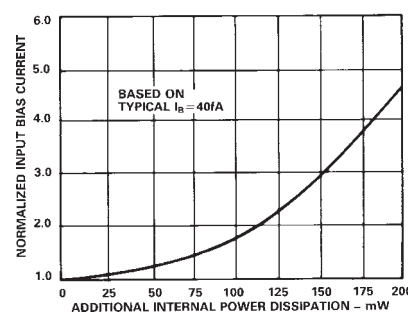

Figure 9. Input Bias Current vs. Additional Power Dissipation
3. Output loading effects, which are normally ignored, can cause a significant increase in chip temperature and therefore bias current. For example, a $2\text{ k}\Omega$ load driven at 10 V at the output will cause at least an additional 25 mW dissipation in the output stage (and some in other stages) over the typical 24 mW , thereby at least doubling the effects of self-heating. The results of this form of additional power dissipation are demonstrated in Figure 9, which shows normalized input bias current versus additional power dissipated. Therefore, although many dc performance parameters are specified driving a $2\text{ k}\Omega$ load, to reduce this additional dissipation, we recommend restricting the load resistance to be at least $10\text{ k}\Omega$.